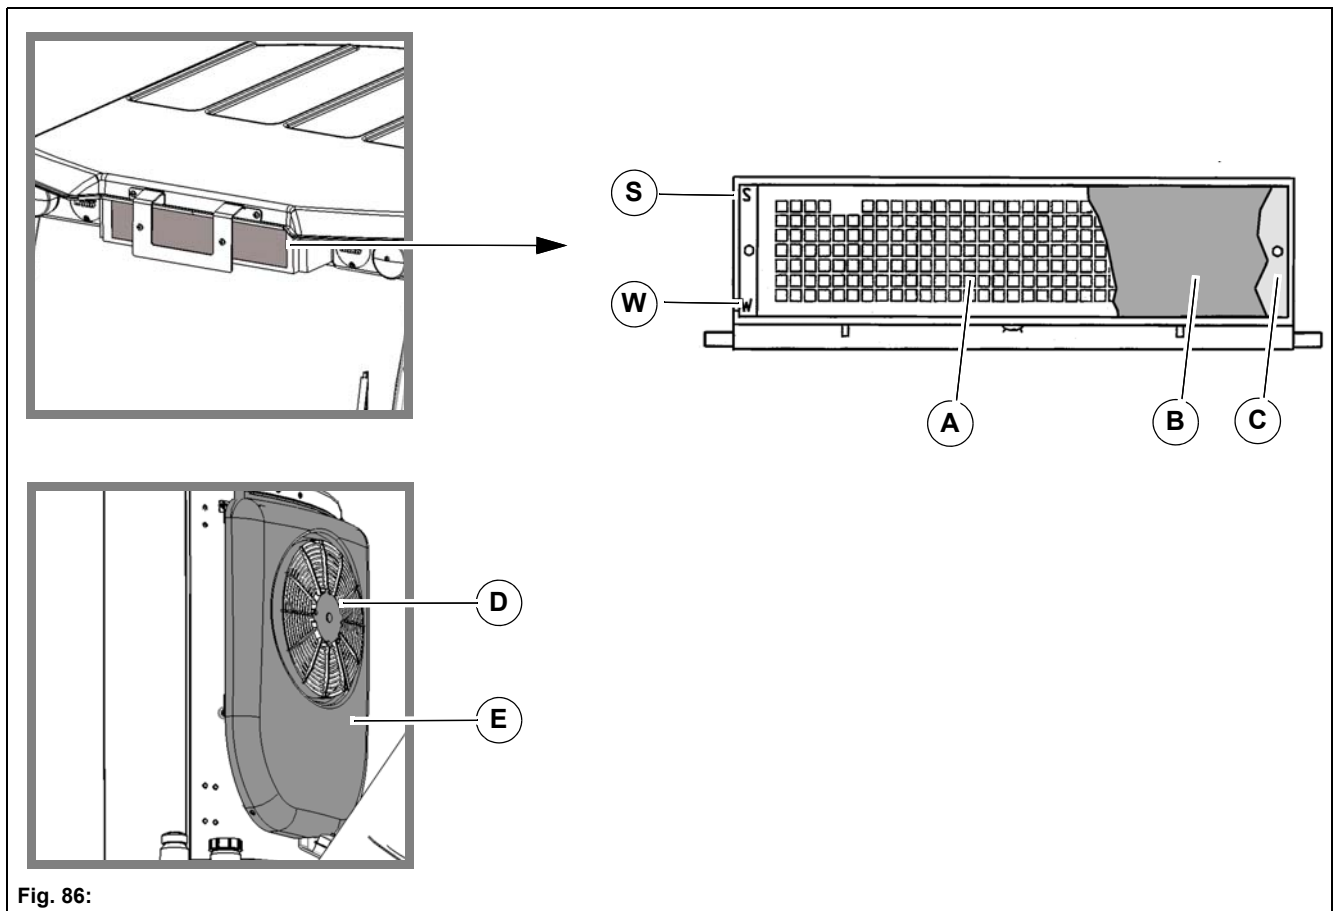

Fig. 86:
2. Loosen the four mounting screws of the protective grille **Fig. 86-A** and remove the protective grille.
3. Remove and clean the cab air filter **Fig. 86-B** and renew it if necessary.
Insert the perforated plate **Fig. 86-C** located behind the cab air filter so that the mark points to the "S".
Check the condenser **Fig. 86-D** of the air conditioning system for contamination every 250 operating hours and clean it if required.
2. Loosen the mounting screws of the cover **Fig. 86-E** above and below.